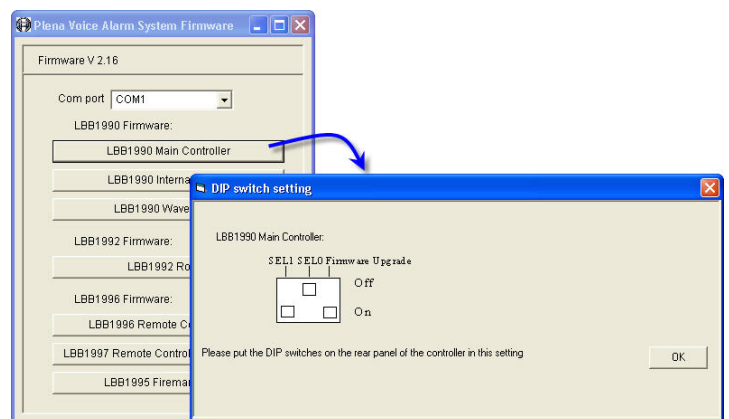

Figure 6: Dip switch settings
- 6) A new window (figure 6) pops-up; This windows shows the settings of the dip switches which could be found at the rear for the Plena Voice Alarm controller. (blue/green arrow figure 4)